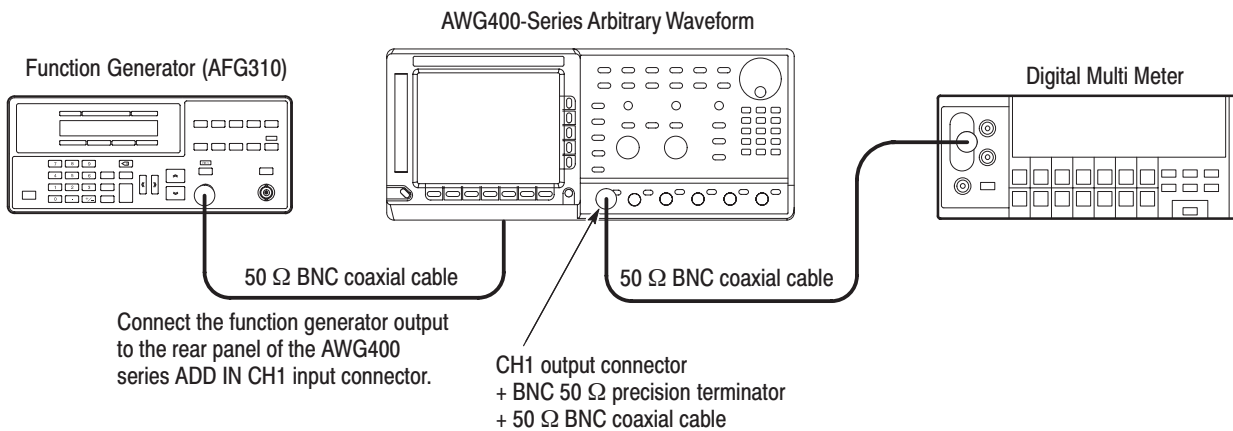

Figure 4-39: ADD IN input initial test hookup
- a. Use a 50 Ω BNC coaxial cable to connect to the rear panel of the AWG400-Series ADD IN CH1 input connector to the function generator (AFG310) output connector (see Figure 4-39).
- b. Connect the BNC-to-banana adapter and a 50 Ω BNC coaxial cable to the digital multimeter input connector. Connect the loose end of the 50 Ω BNC coaxial cable to the AWG400-Series CH1 output connector (see Figure 4-39).